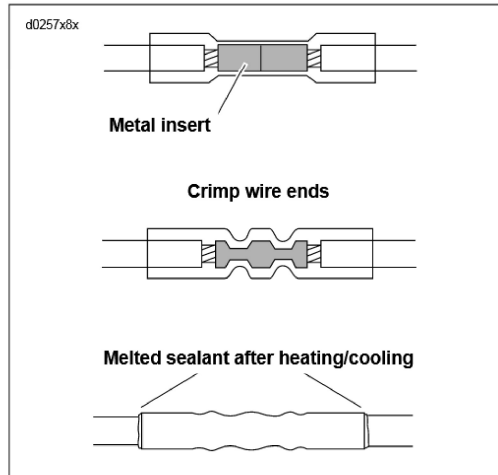

Figure 1-3. Installing Sealed Butt Splice Connectors
6. See Figure 1-3. Feed the wire into the butt splice connector until the stripped end contacts the wire stop inside the metal insert.